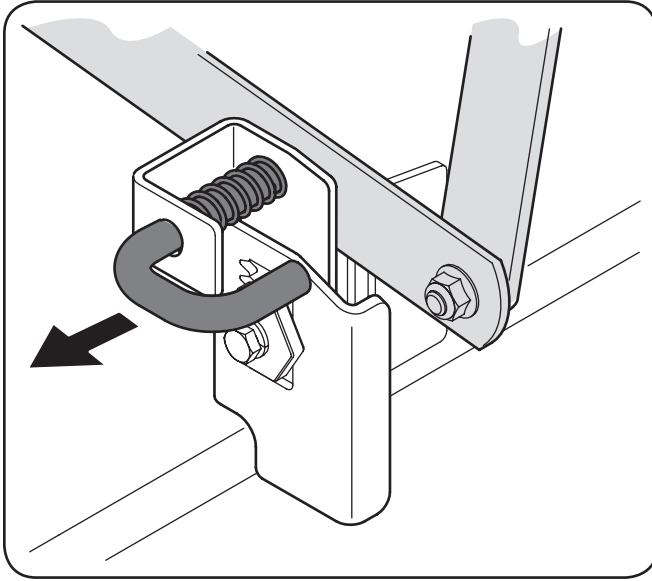

Figure 7-4
8. Pull the deck support pin outward to release the deck from the deck lift arm. See Fig. 7-4.